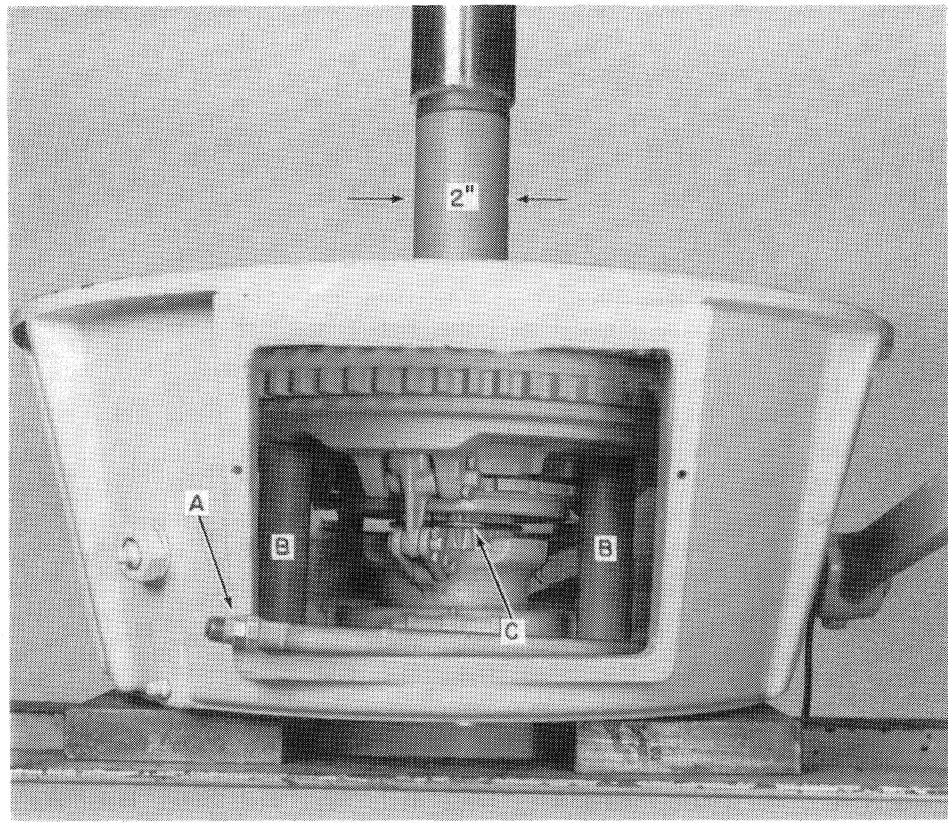

FIGURE 2-8
4. Disconnect the grease line, A, Figure 2-8.
5. Position the assembly in a press as shown in Figure 2-8. Support the clutch assembly with two supports, $1\frac{1}{4}'' \times 4\frac{1}{2}''$ (3 cm x 11 cm), as shown at B, Figure 2-8.
6. Use a shaft, $2'' \times 6''$ (5 cm x 15 cm) to press the shaft out. Press the shaft $\frac{1}{2}''$ (12 mm) and then remove the split rings at C, Figure 2-8.